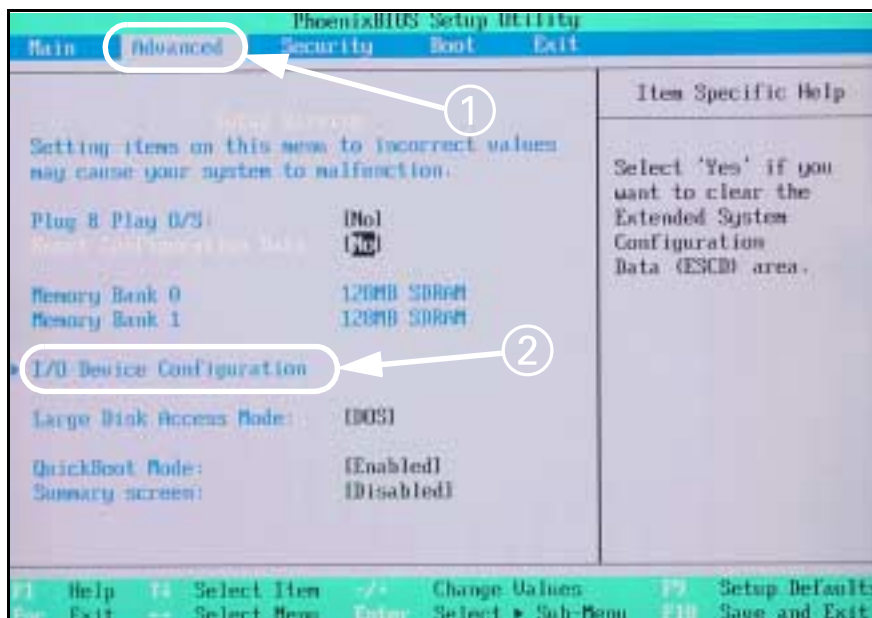

Figure 2-4 Advanced settings
12) Use left/right arrow keys to select "Advanced" tab (① in Figure 2-4).
13) Verify correct "Advanced" settings as shown in Figure 2-4.
14) Use up/down arrow keys to select I/O Configuration (② in Figure 2-4), and then press *<Enter>* key.